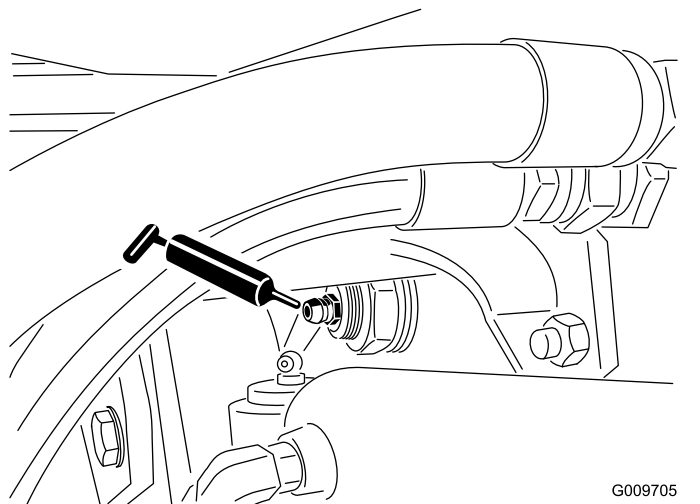

Figure 20
- Rear axle pivot bushings (2) (Figure 20)